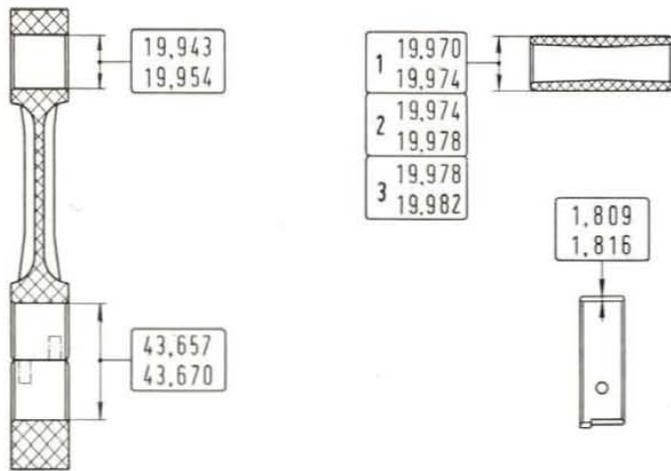

Fig. 58 - Critical dimensions (metric) of connecting rod, rod bearing insert and piston pin. (Early type)
**SERVICE NOTE -** Early type connecting rod bearings shown in fig. 58 can be safely replaced by the late type. In case the connecting rod is to be renewed, install late type connecting rod and bearings.